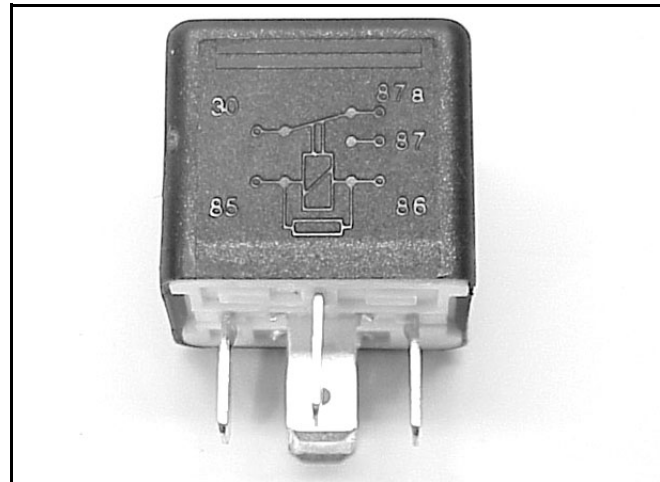

Figure 15
2. Switch: Terminals 30, 87, and 87a are actually part of a single pole, double throw (SPDT) switch. Terminal 30 is the common lead. The switch is spring loaded so that 30 and 87a are connected when the coil is not energized. When the coil is energized, the switch is "thrown" and 30 and 87 are connected (Figure 15).